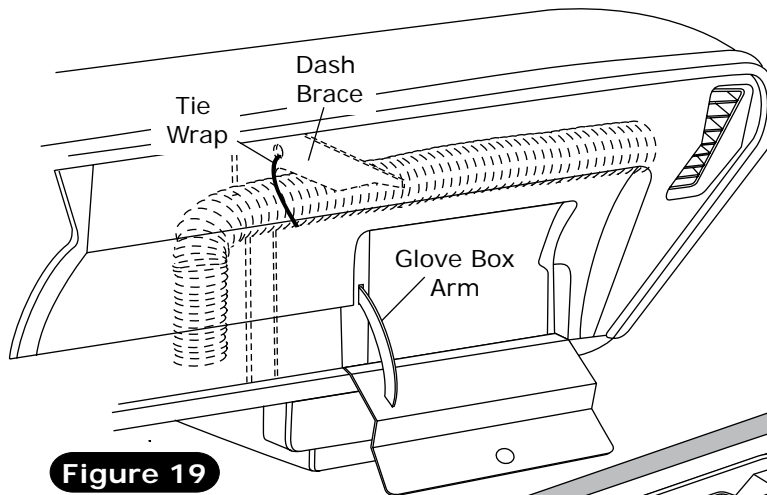

Figure 19
1. Install duct hoses as shown in Figures 19 and 20, Page 17.